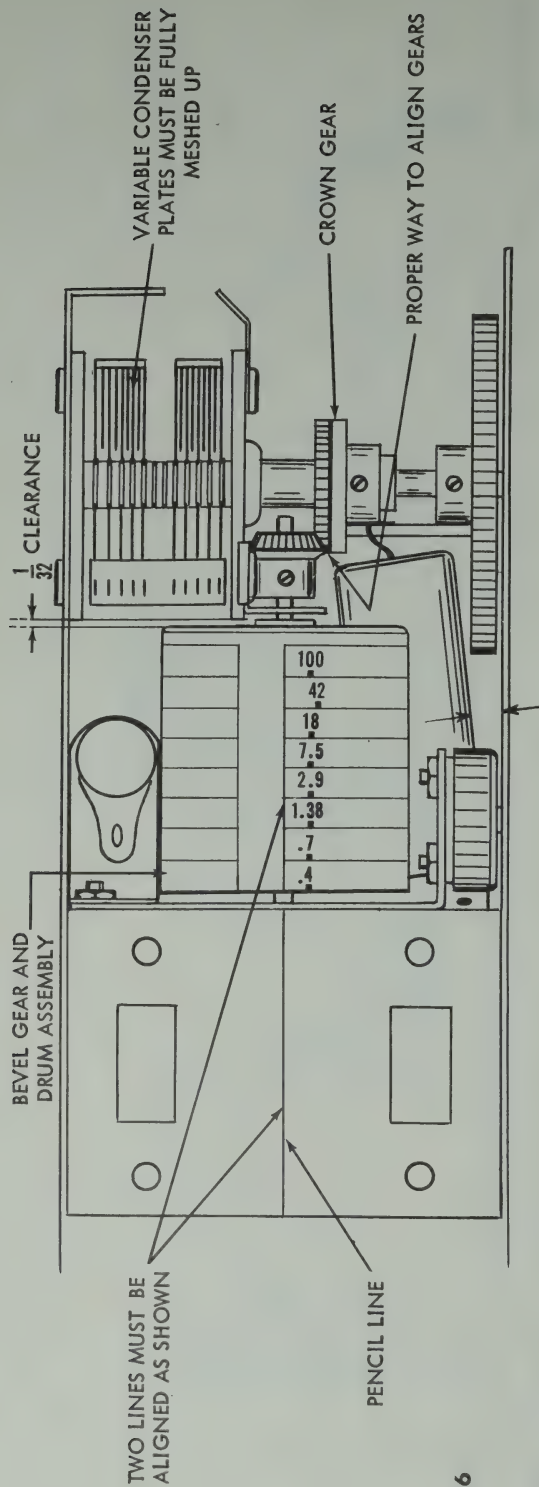
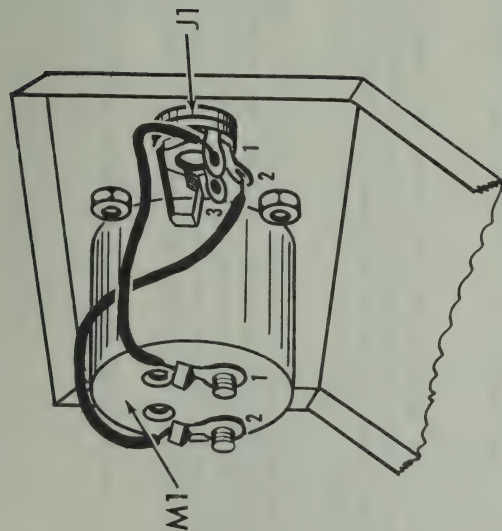

Fig. 6
Fig. 7
- () 5. Fig. 5. Cut the positive (+) lead on the 50 mfd, 150 volt electrolytic capacitor, C6 to 1/2" and connect to TB2-2 (S4). Cut the negative (-) lead to 1" and connect to lug "A" (S2). Position the capacitor so that it is 1/4" from the edge of the chassis. See figure 6.
- () 1. Fig. 6. $1/8$ " from either edge of the top of the "U" shaped bracket, draw a line perpendicular to the variable capacitor. This is at the center of the bracket.
- () 2. Fig. 6. Loosen completely the two screws holding the "U" bracket to the main chassis. The nuts should be held onto the screw with several threads.
- () 3. Fig. 6. Push a spring over the thinner portion of the center axle inside the drum assembly. Do not force the spring over the thicker portion of the axle.
- () 4. Fig. 6. With the left hand, push the "U" shaped bracket toward the 4 post terminal strip TB1, mounted on the main chassis. With the right hand, push the axle with the spring on the drum assembly, through the hole "R" in the "U" shaped bracket. See fig. 5 for location of the hole. The spring tends to push the drum assembly towards the variable capacitor.
- () 5. Fig. 6. The capacitor plates must be fully meshed (maximum capacity). Push the drum towards the "U" shaped bracket so that the clearance between the frame of the capacitor and the body of the drum is $1/32$ ". See fig. 6. Turn the drum so that the beginning of the scale, nearest the .4 mc marking, coincides with the line drawn in step 1, above.
Slip a crown gear over the $1/4$ " shaft on the variable capacitor. Engage this with the small conical gear, "V", on the drum assembly. Tighten the set screw on the crown gear. Note that the pressure of the conical gear (on the drum) on the crown gear is the force necessary to keep the drum $1/32$ " from the frame of the variable capacitor. When properly assembled, results will appear as shown in figure 6. Drum will rotate freely with $1/32$ " axial play compensated by the spring. This is an example of a spring loaded, right angle gear drive which takes out the backlash.
- () 6. Fig. 6. Slip the black tuning knob over the $1/8$ " shaft on the variable capacitor. Do not tighten the set screw as yet.
- () 1. Fig. 7. Mount phone jack J1 as shown in figure 2. Use the lockwasher, flatwasher and hex nut supplied with the jack to secure it to the panel.
- () 2. Fig. 7. If the meter you have has four mounting stud screws already mounted on the meter movement, push the meter through the holes and mount it with the four #4-40 x 3/16 hex nut. If your meter is of the type that does not have the four screws already mounted to its frame, push 4-40 x 5/16 screws through the four holes on the front of the meter. Secure the meter to the panel using four #4-40 x 3/16 hex nuts. Orient as shown. Note the front panel so that meter is mounted properly up and down.
- () 3. Fig. 7. Connect a 2 1/2" piece of red wire from J1-1 (S1) to M1-1 (S1). Dress the wire close to the meter body and panel, as shown.
- () 4. Fig. 7. Connect a 3 1/4" piece of black wire from J1-2 (S1) to M1-2 (S1). Dress the wire close to the meter body and panel, as shown.
- () 5. Fig. 7. Push the pilot light into the pilot light socket, X11. Place a shield over the pilot light bulb.
- () 6. Fig. 7. Push the 6AF4A tube, V1, into the socket, XV1. The tube is positioned at a slight angle with the chassis, when it fits snugly in its socket.
- () 7. Fig. 7. Unscrew the four screws holding the slide switches, S1 and S2. The panel is mounted to the "U" shaped bracket with these four screws. Slide the black tuning knob, previously mounted on the shaft of the capacitor, so that it fits through the slit marked tuning on the panel. Align the panel so that the inscribed line on the plastic plate, which appears in the center of the trapezoidal cutout, is directly over and parallel to the line used in step 5 referring to figure 6. Tighten the panel to the "U" shaped bracket and the slide switches, using the #4-40 screws just removed from the switches. All controls and both switches should move freely without rubbing or sticking.
- () 8. Fig. 7. Center the black tuning knob in the slit and tighten the screw from the front side of the unit, next to the tube.
- () 9. Fig. 7. Turn tuning knob. Note that it should rotate freely. If it does not, check point of friction. If it hits the side of the tube, bend the tube bracket slightly with a pair of long nose pliers. If it rubs against the electrolytic capacitor, push the capacitor out of the way, so that there is a 1/32" clearance.
- () 10. Fig. 7. Solder the black wire from hole "5" to J1-3 (S1).
- () 11. Fig. 7. Push a 5/16" rubber grommet through the hole in the short side of the cabinet.
- () 12. Fig. 7. Push the end of the line cord with the tinned leads from the outside of the cabinet, through the grommet. Solder one tinned lead to S2-2 (S1) and the second tinned lead to TB1-1 (S2). See Fig. 3.